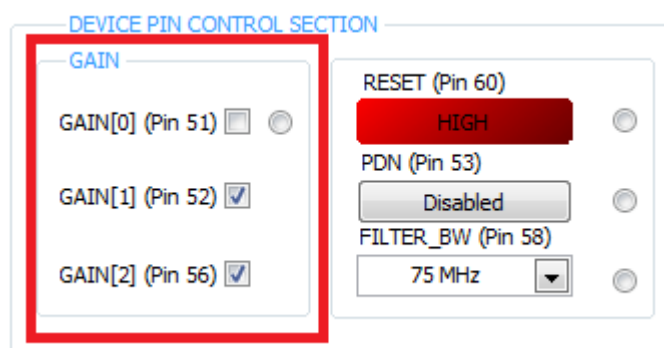

Figure 50. PGA5807 GUI Setup for PGA5807A + ADS5296A Gain Test 4
8. Return to the PGA5807 tab and change the **GAIN[x]** values in the *DEVICE PIN CONTROL SECTION* to 18dB as shown in Figure 50.